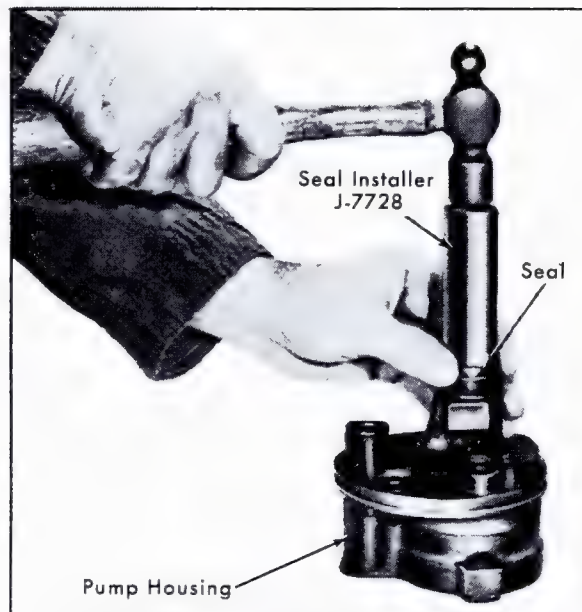

Fig. 9-15 Installing Pump Shaft Seal
2. If drive shaft seal was previously removed, lubricate new shaft seal with power steering fluid and install in housing with metal backing up. Use Seal Installer, J-7728, Fig. 9-15.